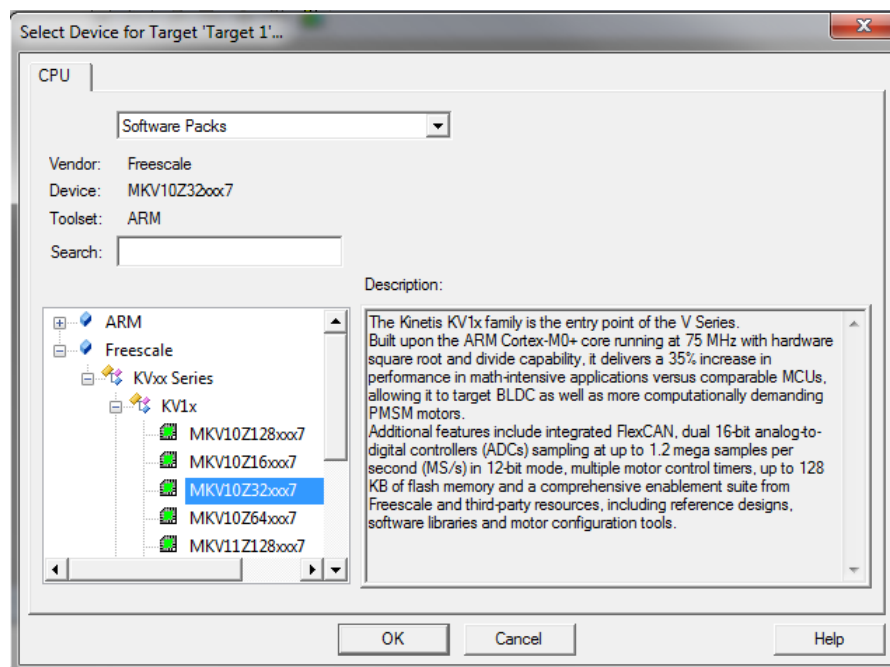

Figure 1-29. Select Device dialog
7. Click the MKV10Z32xxx7 node, and then click OK. See Figure 1-29.